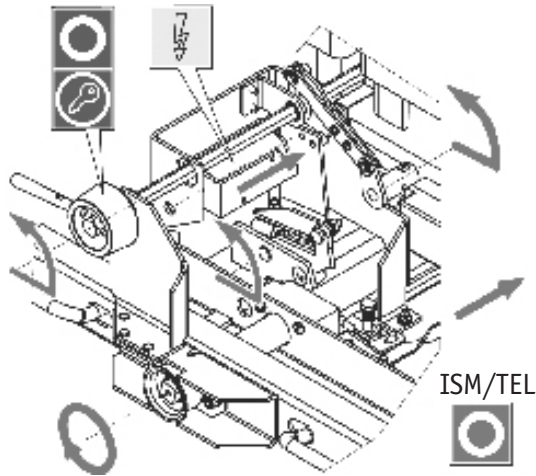

Figure 23
- ISM manual tripping and locking device operable when the circuit breaker compartment door is closed (see Fig. 23, 24). Compared with the base version this device includes an additional supporting bracket mounted onto the fixed part of the draw-out plate.
- The draw-out unit locked in its test/disconnected position cannot be moved into the service position if the control wiring plug is not inserted in the socket or control voltage is not applied (See Fig. 23, 24). This function is realised by electromagnet Y1 mounted onto the interlocking bridge. If the electromagnet is not energized (the control wiring plug does is inserted in the socket or control voltage is not applied) rotation of the racking screw is blocked and the draw-out unit can not be moved. In case of power failure during the racking process the electromagnet will be deenergized but it is possible to move draw-out unit to service or test position after which it will be blocked.